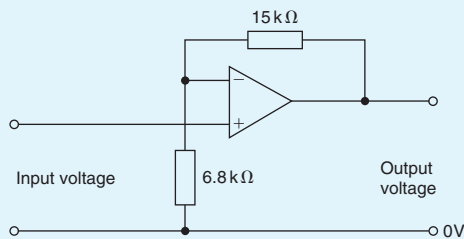

Figure 19.18
1. If the input voltage for the op amp shown in Fig. 19.18 is -0.5 V , determine (a) the voltage gain, (b) the output voltage.